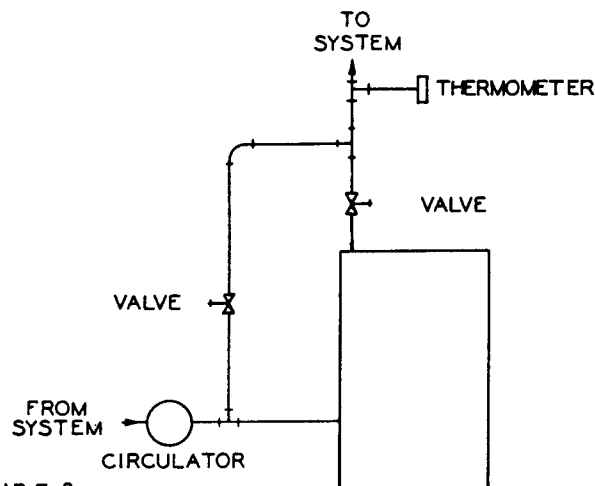

FIGURE 3
7. For P-CG-6 through P-CG-10 boilers, attach the No. 110 Fill-Trol Tank to the Combination Fill Valve and Manual Shut-Off Valve. The watertight seal between the tank and the combination valve is accomplished by a rubber "O" ring. For P-CG-3 through P-CG-5 boilers, the No.109 Fill-Trol Tank is shipped attached to the Combination Valve. **Where the boiler is to be used with a radiant panel system or other low water temperature applications (i.e. converted gravity systems, etc.) a boiler bypass piping arrangement should be used to assure higher boiler water temperature for optimum boiler operation. If a boiler bypass piping arrangement is required, locate a tee in the return piping between the circulator and the boiler and another tee in the supply piping as illustrated in Figure 3. Use the same size bypass piping as the supply and return piping. Locate a valve in the bypass piping and in the supply piping between the supply outlet tapping and the tee as illustrated in Figure 3 so the water flow rate through the boiler and through the bypass can be regulated to maintain a higher boiler water temperature. Adjust the valves to provide 200° to 220°F. boiler water temperature when the system water temperature is at the maximum desired.**